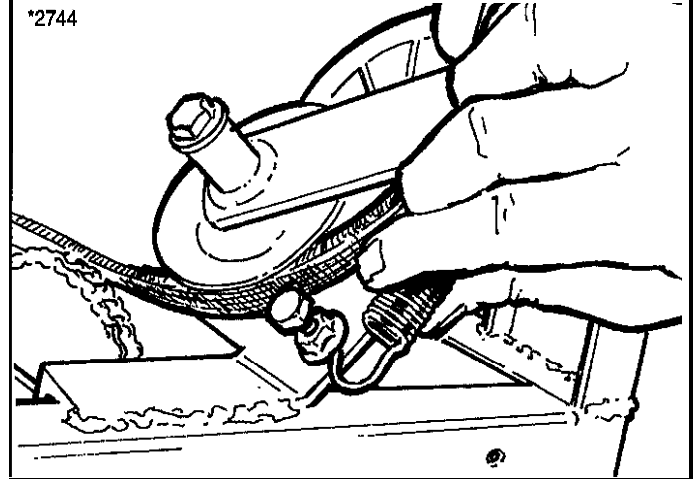

Figure 40. Lift Off Idler Pulley Spring
3. Lift the idler pulley spring off the threaded stud, and release tension on the idler pulley assembly. Note the path of the belt, then remove it through the back of the unit (Figure 40).